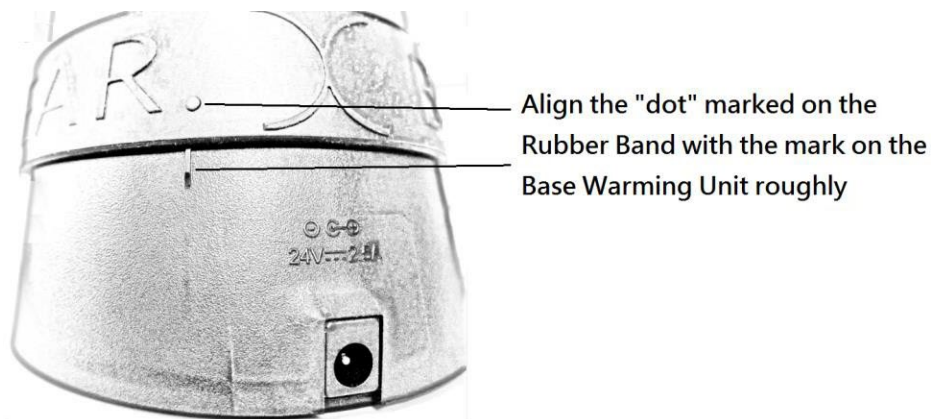

Fig. 2 Alignment of Rubber Band
- Align the "dot" mark at rubber band at front side of "Base Warming Unit" as shown Fig. 2.